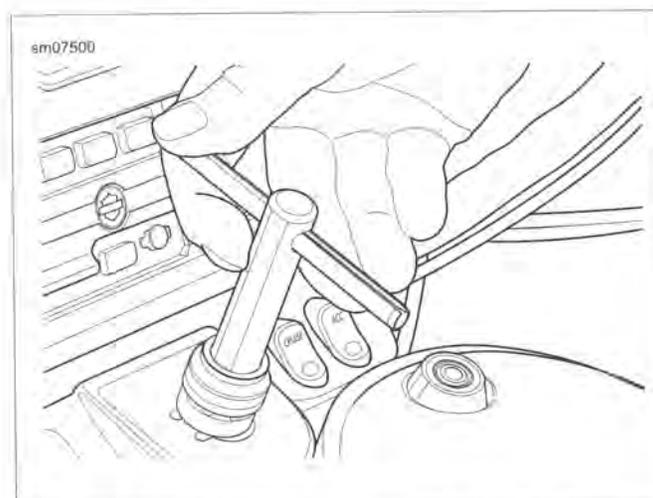

Figure 7-47. Bottom Alignment Tool in Threaded Post and Rotate to Desired Position
See Figure 7-47. Use IGNITION SWITCH ALIGNMENT TOOL (Part No. HD-51198) to move the switch to other positions as required. Insert tool until bottom of handle contacts top of ignition switch. Rotate handle to the selected position.
- a. See Figure 7-47. Insert alignment tool until bottom of handle contacts top of ignition switch. While holding front forks at the left fork stop, rotate handle of tool counterclockwise until fork locks.